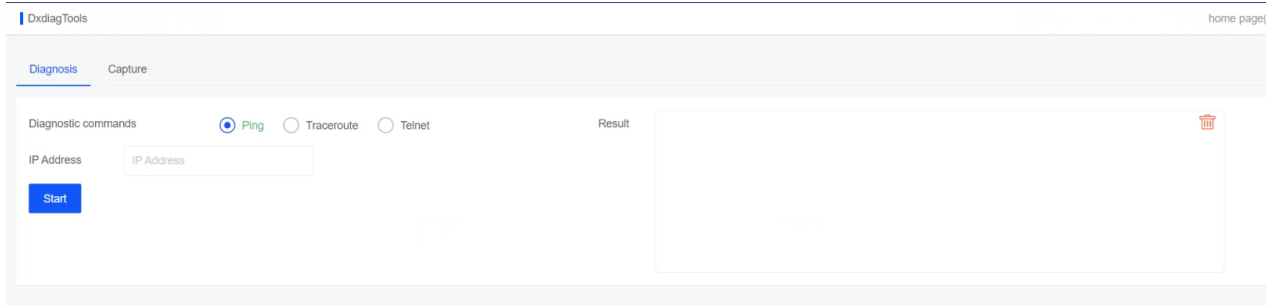

Figure 59
1. Diagnostic tool: it is used to detect network communication, and compatible with PING, TELNET and TRACEROUTE, as shown in Figure 59: